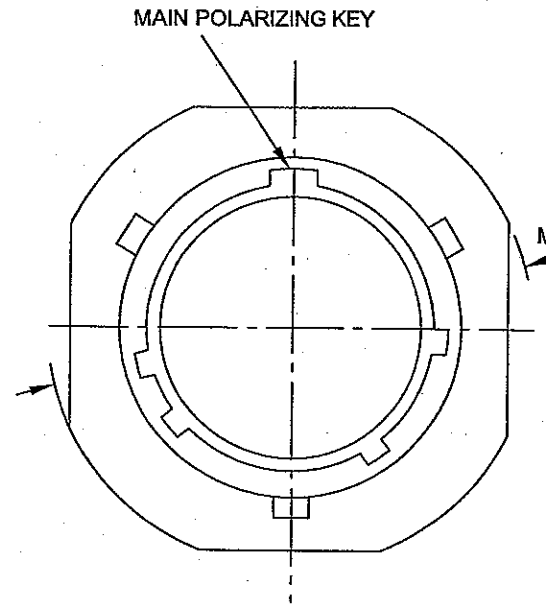

Fig 11 461 Cab
10.4 Dimensions of the receptacle are given in Fig 11 and details in Table 7.